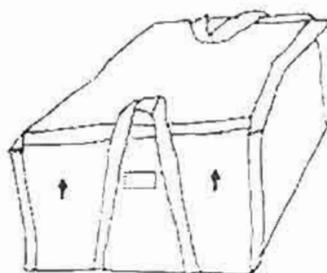

Figure 1-6. Canvas case.
d. *Canvas case (fig 1-6)*. The olive drab canvas case with hook-and-loop fasteners provides protection for the mobile cart during shipment and storage. The canvas case also confines the ES apparatus accessories stored on the mobile cart shelves.